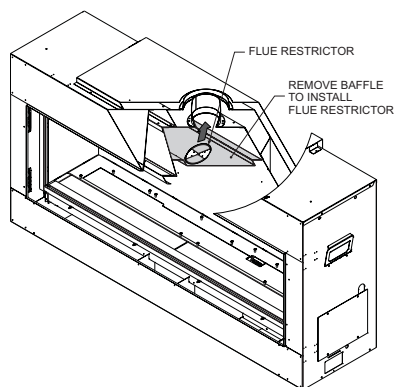

Figure 38
For installation of the restrictor after the venting is installed, remove (2) screws from each end of the flue baffle and set aside. Insert the restrictor up into the flue collar and position it as shown in Figures 38 and 39. Then, re-install the flue baffle.